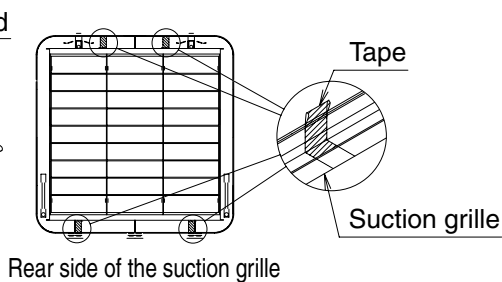

Fig. 4
- 4 Remove the transporting tape (in 4 locations) on the back of the suction grille. **(Refer to Fig. 4)**